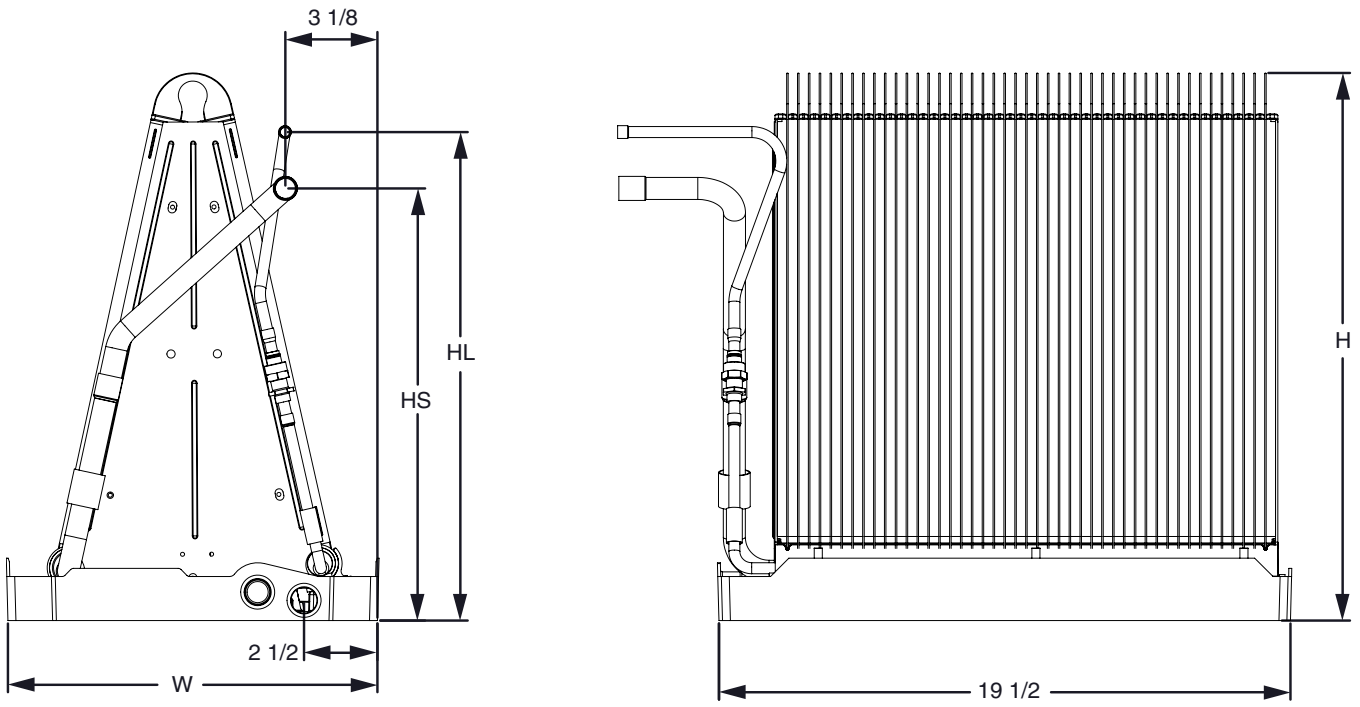

Figure 5. C7 Coil Dimensions (without TXV)
2. Install the coil case on the furnace air discharge opening and level it as needed to ensure proper condensate drainage. If needed, make a plate to adapt the coil to the air discharge opening. See Figure 5 \(page 6\) for coil dimensions.